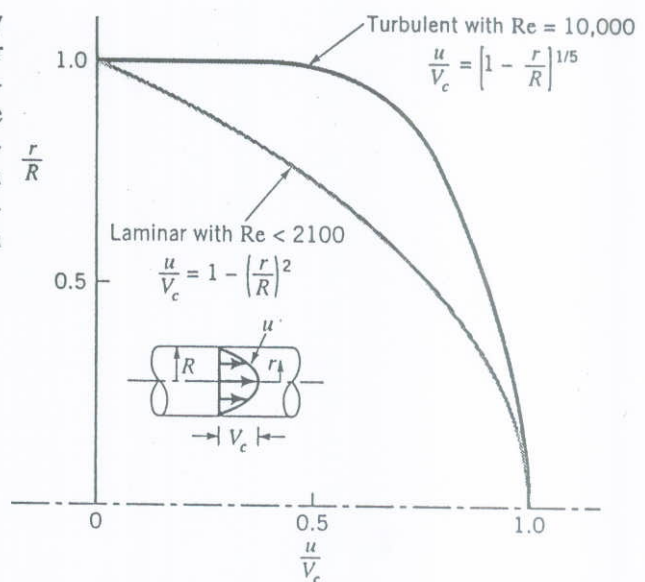

FIGURE P8.35
8.35 As shown in Video V8.9 and Fig. P8.35 the velocity profile for laminar flow in a pipe is quite different from that for turbulent flow. With laminar flow the velocity profile is parabolic; with turbulent flow at  $Re = 10,000$  the velocity profile can be approximated by the power-law profile shown in the figure. (a) For laminar flow, determine at what radial location you would place a Pitot tube if it is to measure the average velocity in the pipe. (b) Repeat part (a) for turbulent flow with  $Re = 10,000$ .